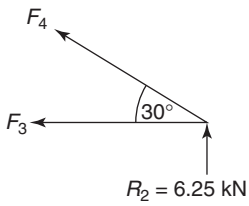

Figure 4.36
Consider joint (2); see Figure 4.36.